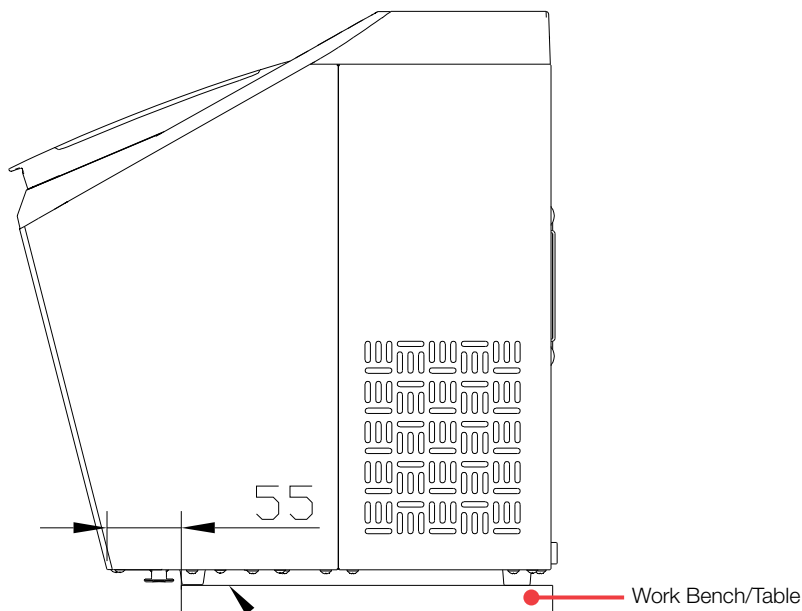
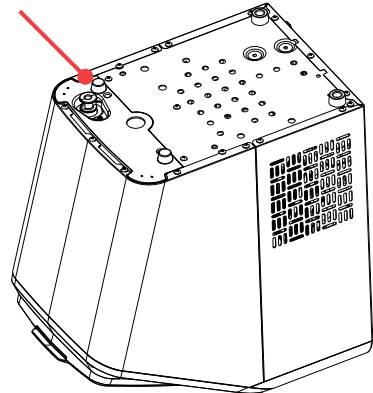
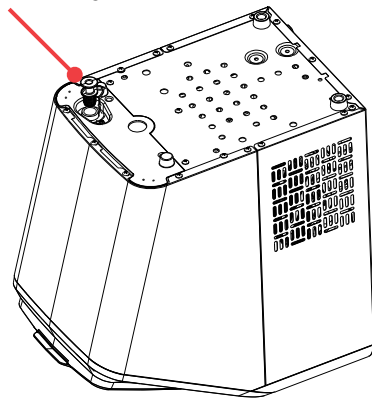

Fig. 1
Fig. 2
Fig. 3
3. Move the appliance forward 55-60mm away from the working table and remove the drain tube plug to drain excess water (see Fig.1, Fig.2 and Fig.3).